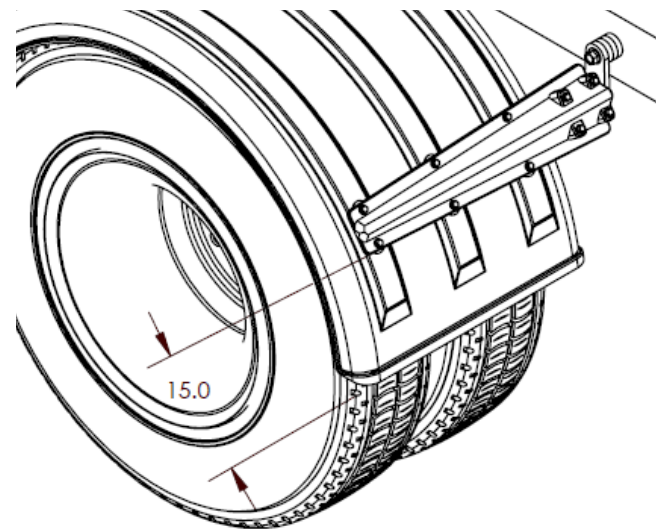

Figure 12
A. If possible, position the mounting brackets so they are located within 15" of the bottom of the fender. This protects against wind blowing the leading edge of the fender back into the tire (Figure 12).